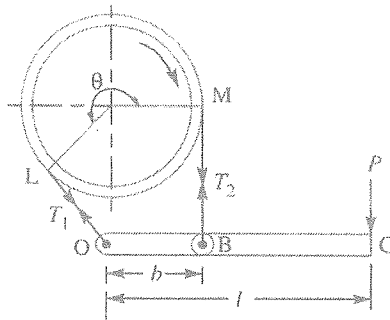

Figure Q3
- c) Obtain an expression for the braking torque of the band brake system shown in Figure Q3.
- d) The required brake torque for the band brake arrangement shown in Figure Q3 is 360 Nm. Find the brake force P required at the end of the lever, if the drum diameter is 400 mm, $b = 200 \text{ mm}$, $l = 800 \text{ mm}$, $\theta = 270^\circ$ and the coefficient of friction, is 0.3.